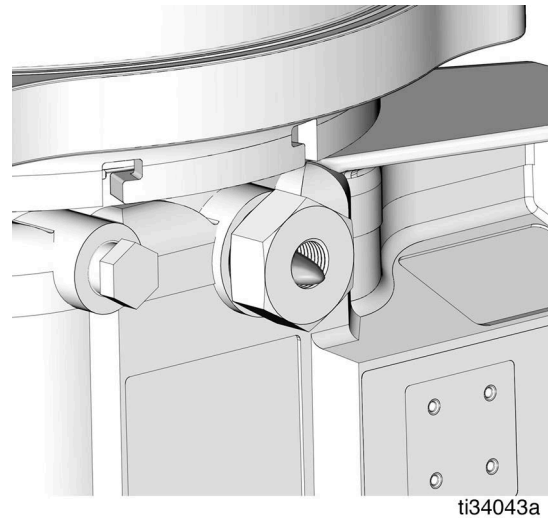

FIG. 12
- Only run the pump until air-free lubricant is dispensed out of the element fitting (FIG. 12).